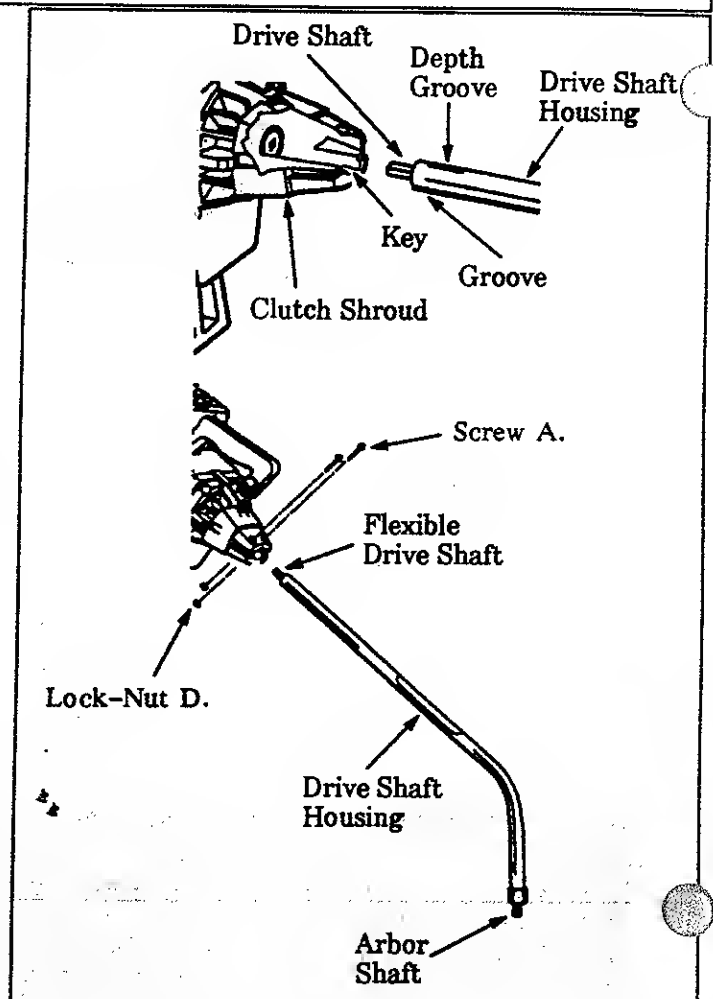

Figure 2
1. DRIVE SHAFT HOUSING (Figure 2)
- Place the two Screws "A." into the holes on the Clutch Shroud as shown in Figure 2.
- Tighten Screws "A." alternately with the hex wrench until secure. Figure 2.